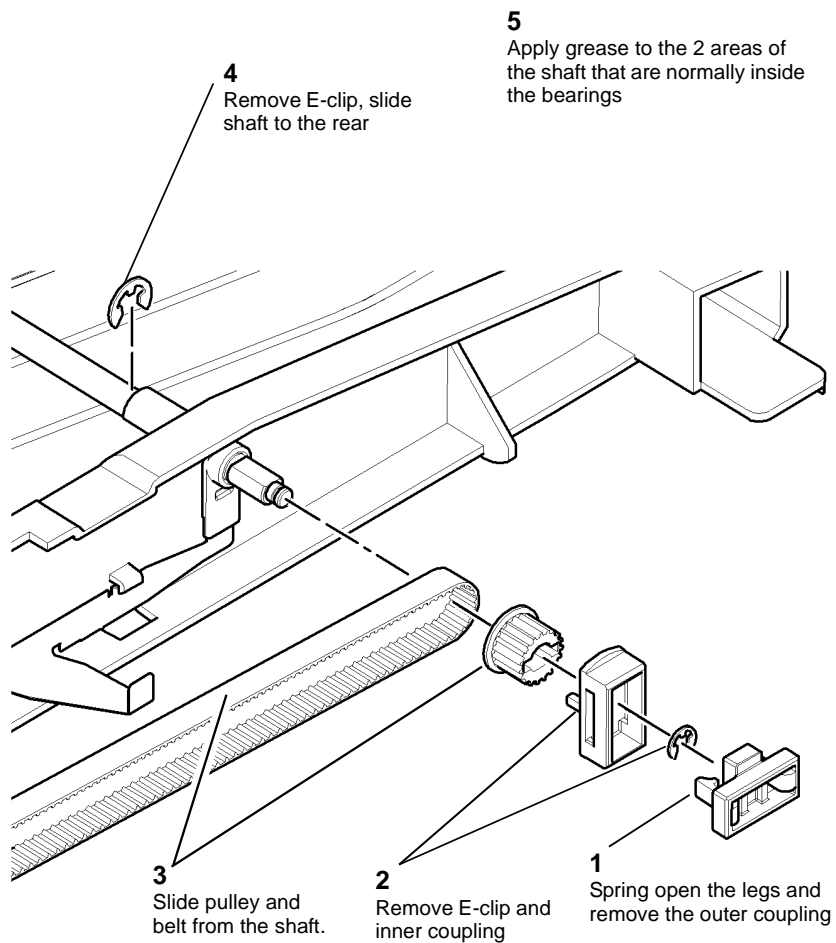

Figure 3 Transport roll removal
2. Figure 3, plastislip grease, PL 26.10 Item 8, to lubricate the tray 3 transport roll assembly.